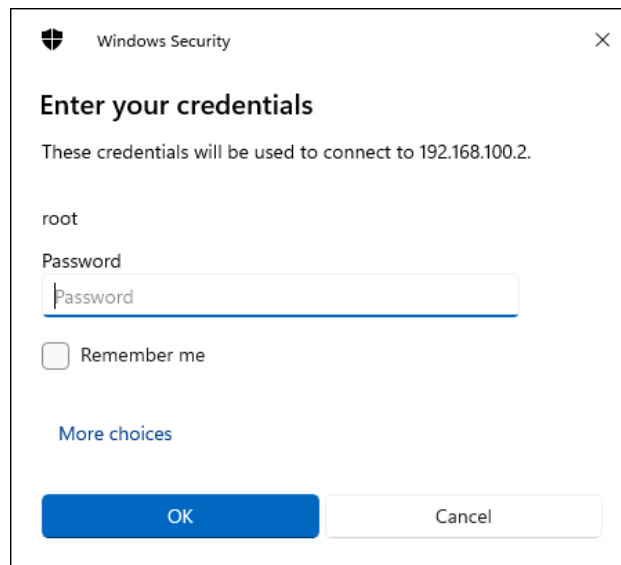

Figure 5-2 Enter Credentials
STEP 6: When prompted, enter the password for default user “root” (Figure 5-2). The default password when shipped is “root”. Press “OK”.